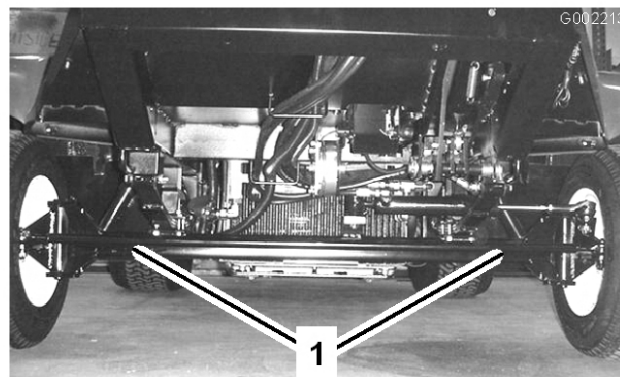
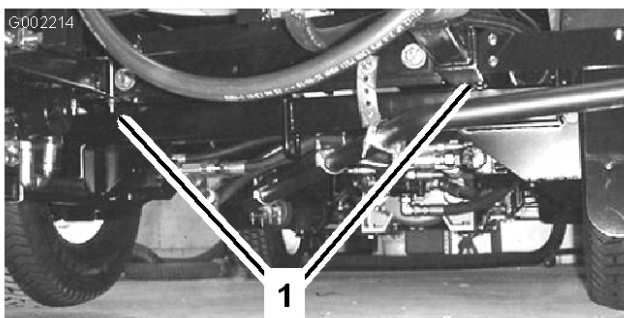

Figure 26
Figure 27
2. Affix a tow line to the frame. Refer to the front and rear towing points in Figure 26 and Figure 27.